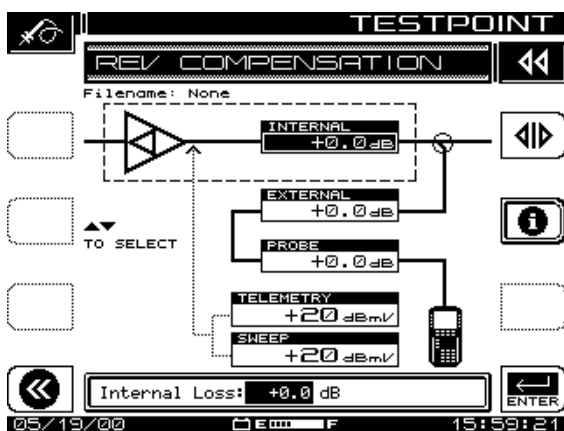

Fig. 4-2 The REV COMPENSATION Screen
3. The reverse test point display contains more adjustments and information (see Fig. 4-2).